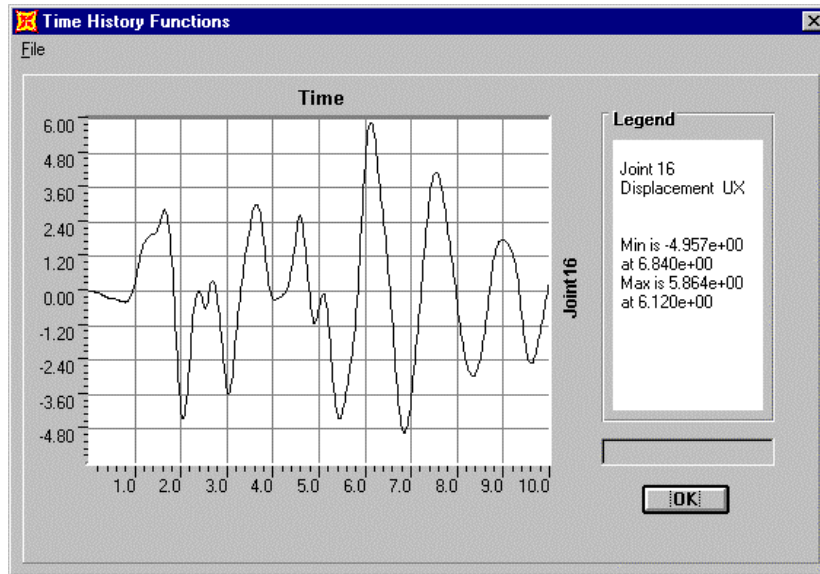

Figure 3-3 Roof Time History Displacement - in
- ◆ Press the DISPLAY button to see the joint displacement with respect to time. See Figure 3-3.